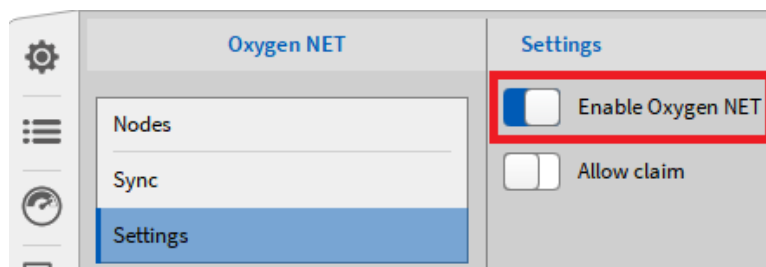

Fig. 15.13: Enable OXYGEN-NET
- Start OXYGEN on all measurement devices and *Enable OXYGEN-NET* in the OXYGEN-NET menu *Settings* (see Fig. 15.13) on all devices